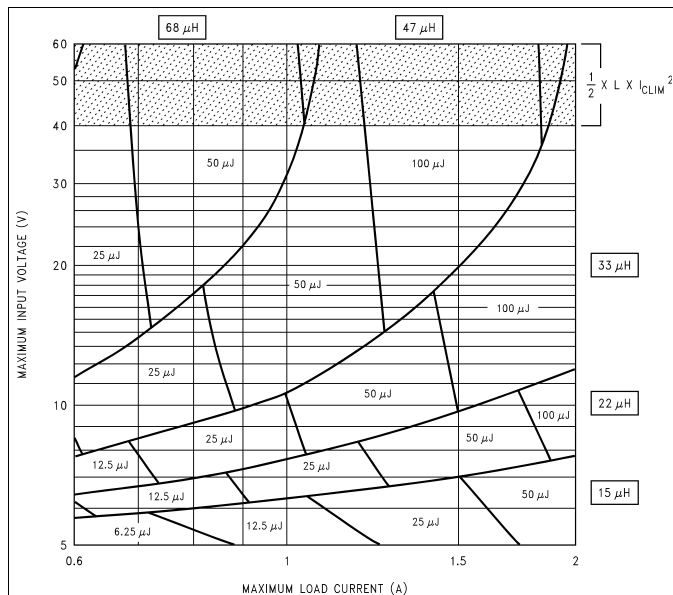
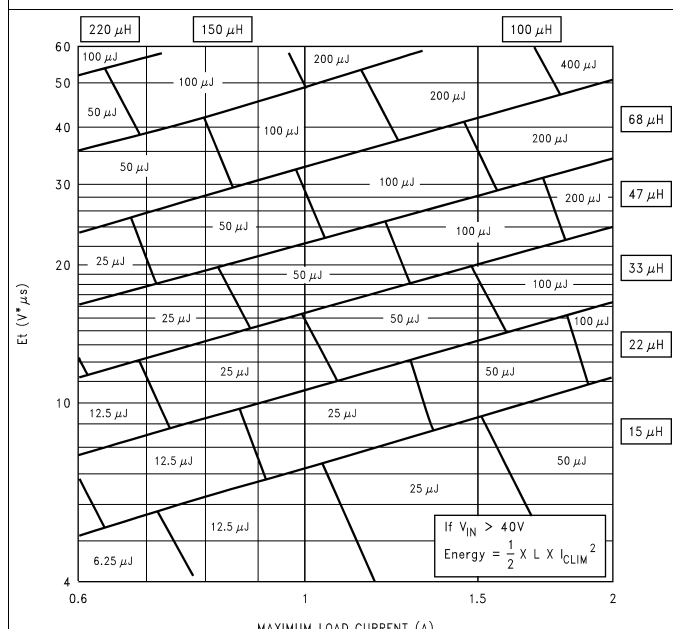

Figure 33. LM2593HV 3.3-V
Figure 35. LM2593HV Adjustable Voltage
See application note *AN-1197 Selecting Inductors for Buck Converters (SNVA038)* for detailed information on inductor selection. For a quick-start, see the nomographs provided in Figure 33 to Figure 35. To widen the choices to a more general selection of available inductors, the nomographs provide the required inductance and also the energy in the core expressed in microjoules (μJ), as an alternative to just prescribing custom parts. The following points must be highlighted:
5. Figure 35 shows the inductor selection curves for the adjustable version. The y-axis is Et , in $\text{V}\mu\text{s}$. It is the applied volts across the inductor during the ON time of the switch ($V_{\text{IN}} - V_{\text{SAT}} - V_{\text{OUT}}$) multiplied by the time for which the switch is on in μs . See Example 3.
- Because input voltage is less than 40 V, a first pass inductor selection is based upon inductance and rated maximum load current. Choose an inductor with the inductance value indicated by the nomograph Figure 35 and a current rating equal to the maximum load. But first calculate Et for the given application. The duty cycle is Equation 5.
- Therefore, looking at Figure 33, quick-select a 47- μH , 2-A inductor (designed for 150-kHz operation) for this application.
- Confirm that it is rated to handle 200 μJ (see Figure 35) by the procedure shown in *AN-1197 Selecting Inductors for Buck Converters (SNVA038)* and that the losses are acceptable. (If the DC input voltage had been greater than 40 V, consider e_{CLIM} as in Example 2).